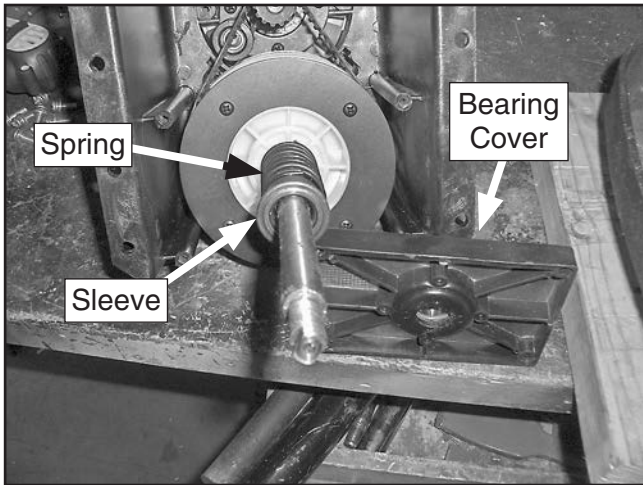

Figure 24. Bearing cover removed.
8. Remove four M4 x 20 tap screws (#41) that secure bearing cover (#42), then remove cover (see **Figure 24**).